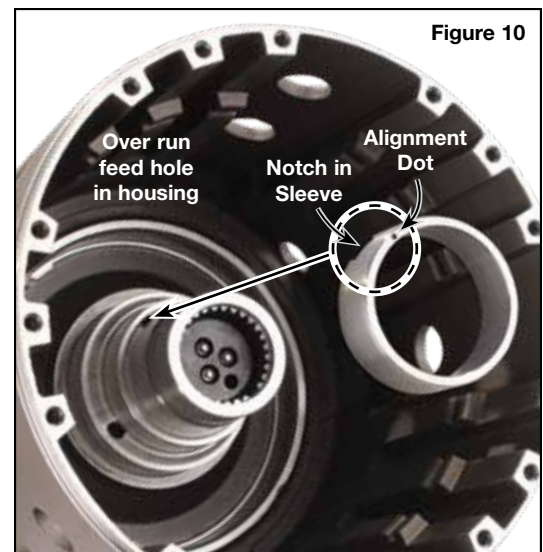

Figure 10
- Coat the inside of the sleeve with green Loctite® 609. Align the notch in the sleeve with the over run feed hole in the housing (**Figure 10**). Set the sleeve into position on the input drum, keeping the notch in the sleeve aligned with the over run feed hole in the housing.